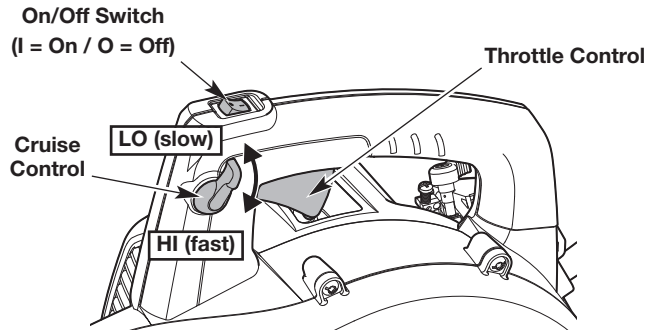

Fig. 3
NOTE: There is no need to turn the unit on. The On/Off switch is in the **On (I)** position at all times (Fig. 3).
2. Move the cruise control to the **LO (slow)** position (Fig. 3).
NOTE: Keep the cruise control in the **LO (slow)** position and **DO NOT** squeeze the throttle control (Fig. 3) until step 7.
7. Squeeze and hold the throttle control or move the cruise control to the **HI (fast)** position (Fig. 3).
2. Press and hold the On/Off switch in the **Off (O)** position until the engine comes to a complete stop (Fig. 3).
- Use the cruise control to make continuous operation easier (Fig. 3).